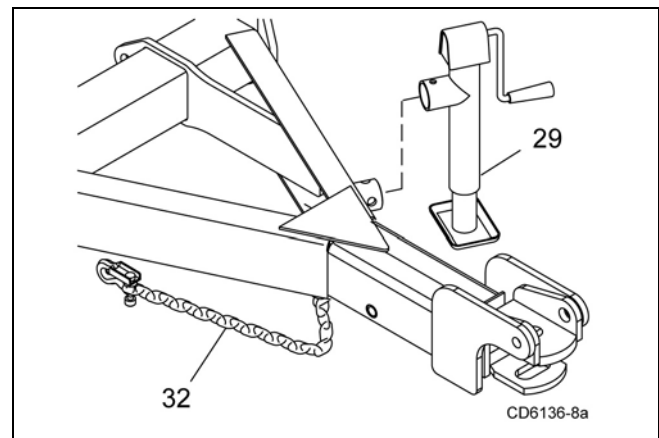

Figure 1. Cutter to Tractor Connection
2. Attach safety tow chain (32) to drawbar support. Leave enough slack for turning (Figure 1).